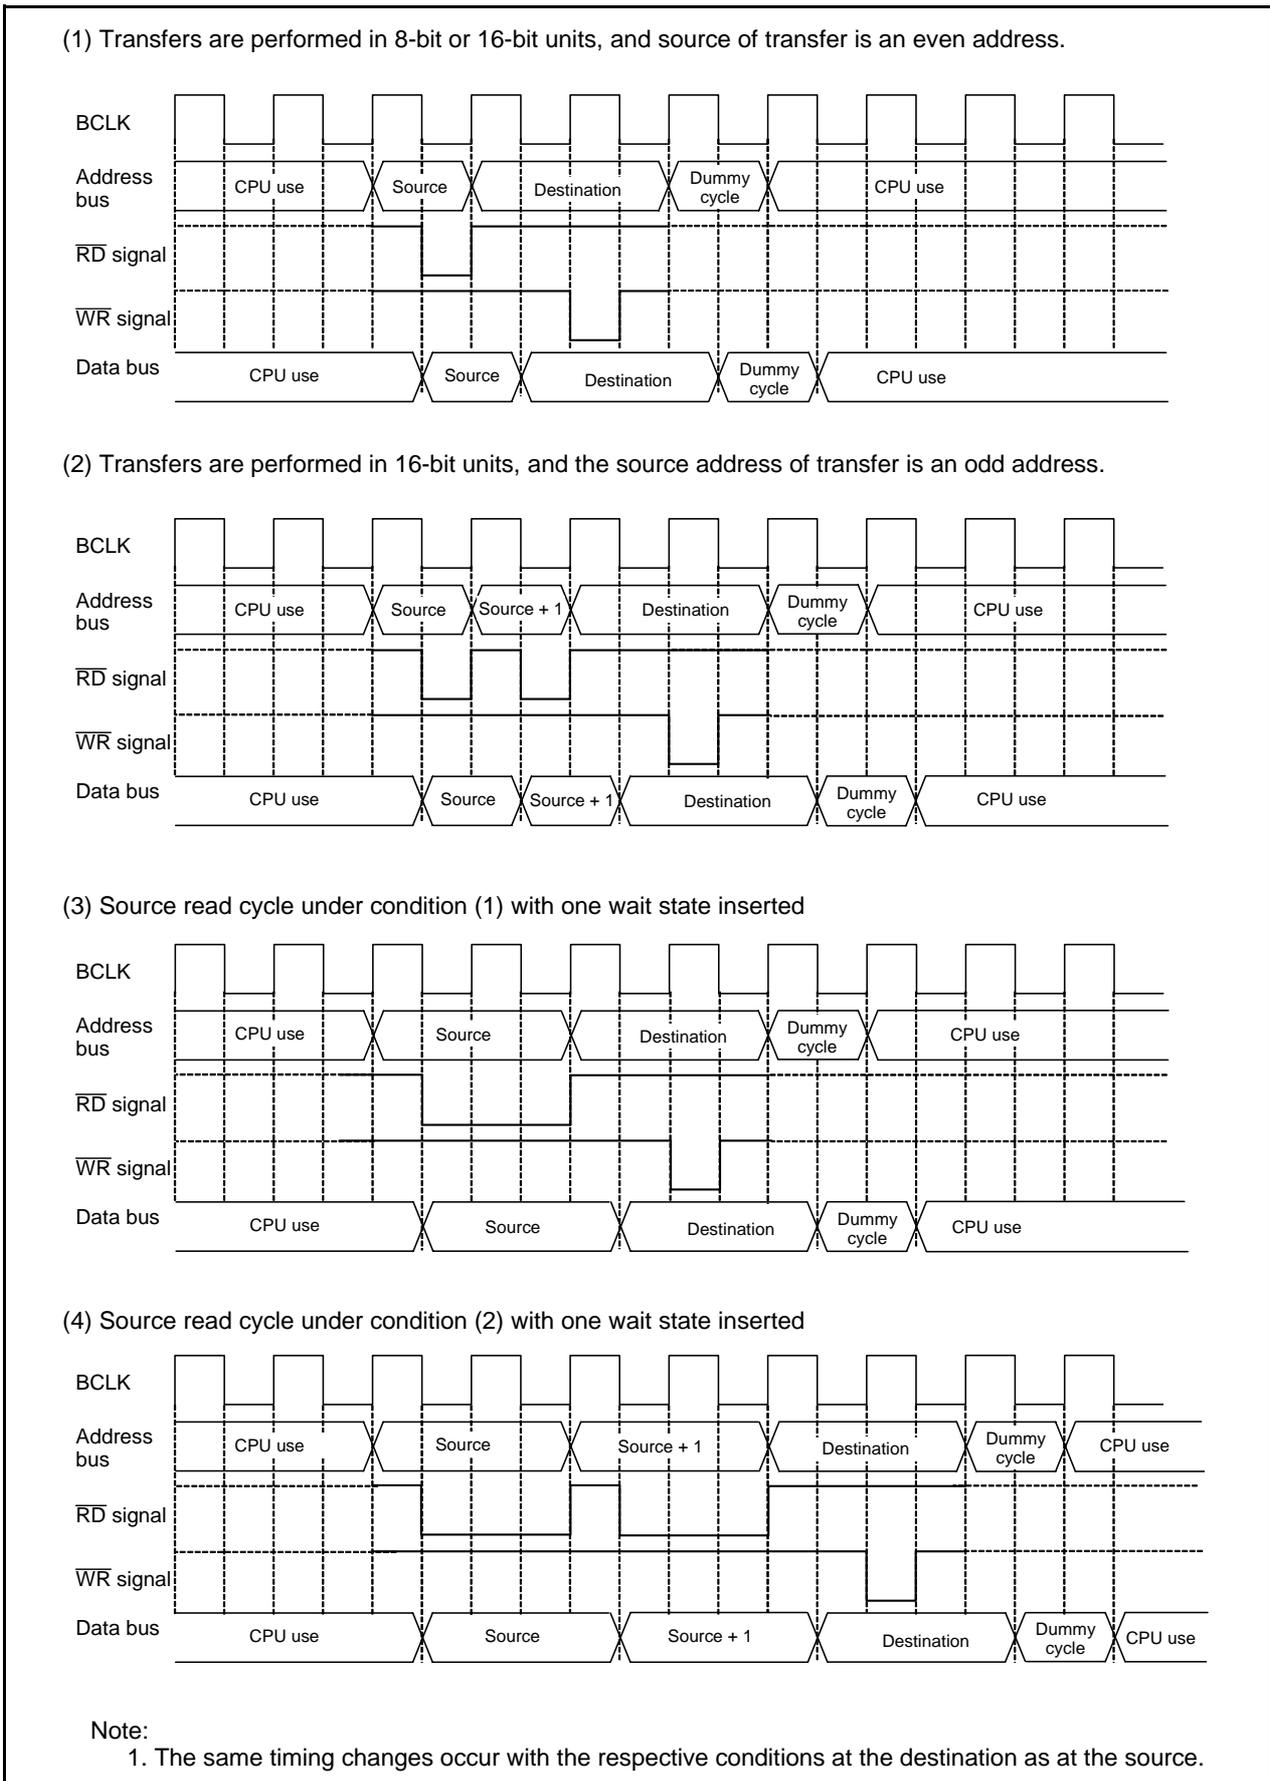

Figure 15.2 Transfer Cycles for Source Read Operations
Figure 15.2 shows Transfer Cycles for Source Read Operations. For convenience, the destination write cycle is shown as one bus cycle and the source read cycles for the different conditions are shown. In reality, the destination write cycle is subject to the same conditions as the source read cycle, with the transfer cycle changing accordingly. When calculating transfer cycles, take into consideration each condition for the source read and the destination write cycle. For example, when data is transferred in 16-bit units, and the source address of transfer is an odd address ((2) in Figure 15.2), two source read bus cycles and two destination write bus cycles are required.